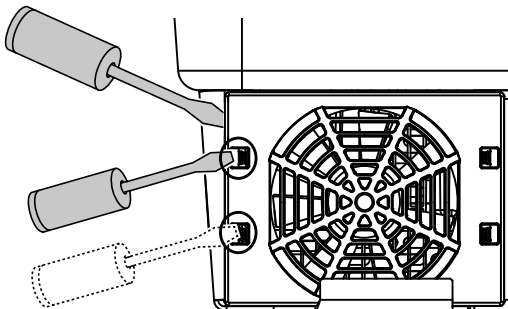

Fig. 74: Loosen fastening straps
3. Press the fastening straps toward the centre of the fan with a second screwdriver. Pull the fan unit slightly forward.  **Fig. 74**